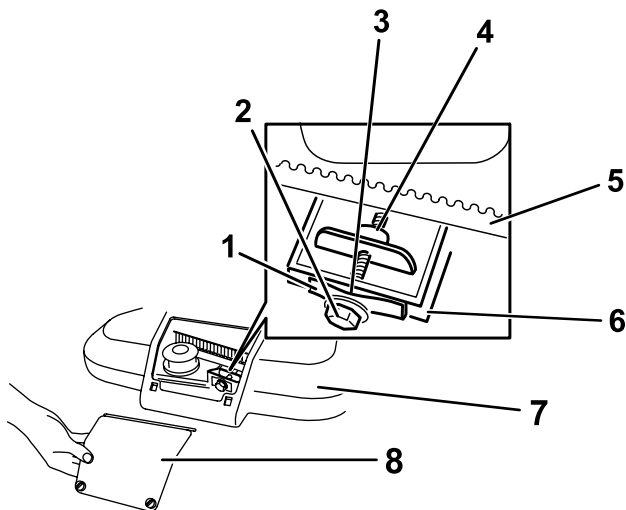

Figure 36
1. Loosen the 2 quarter-turn fasteners on the belt-cover-access panel and remove the panel (Figure 36).